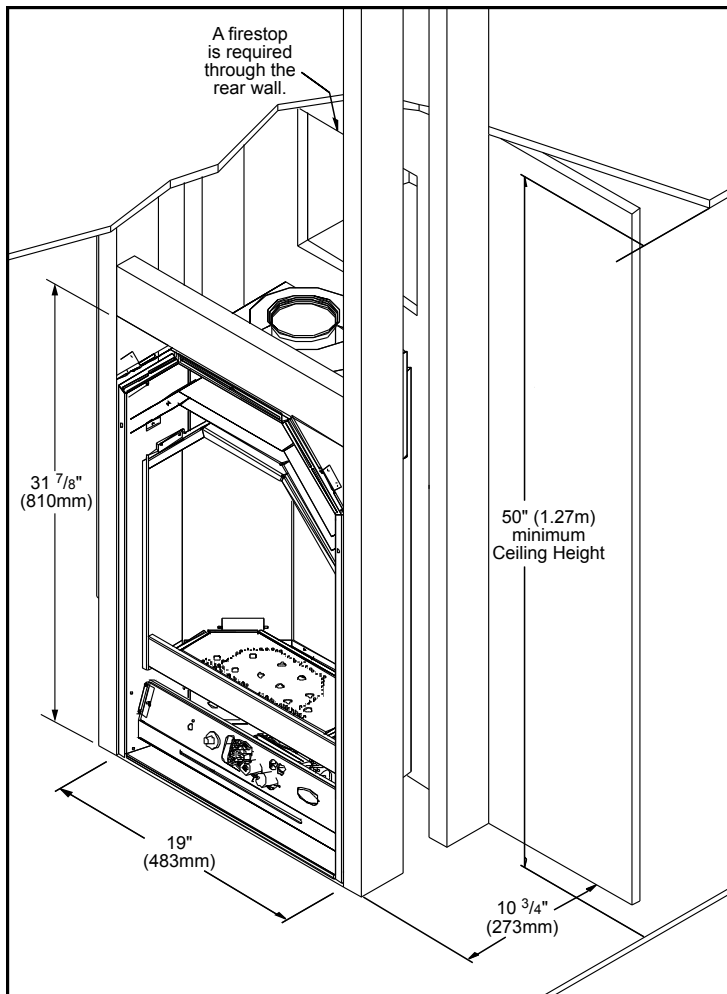
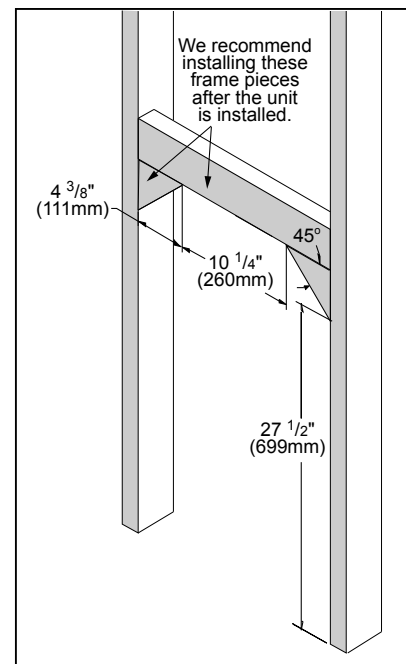

Figure 9. Dimensions for Framing the Firebox.
Figure 10. Dimensions for Top Framing the Firebox.
The fireplace can be located along a wall, raised or at floor level, or in a corner. There are specific framing measurements for each situation. The basic opening should have the dimensions shown in Figure 9. Refer to Figure 1 for the placement of the gas and electrical inlets. When the basic framing is done and the unit is installed the three (3) top pieces of the framing should be installed Figure 10.